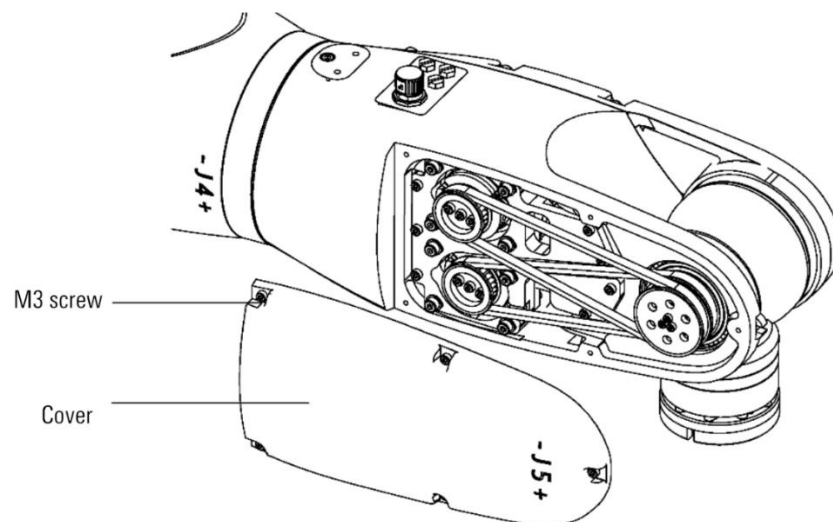

Figure 9-5 Remove the cover
- Step3. Remove the manipulator cover and five M3 screws, as shown in Figure 9-5.